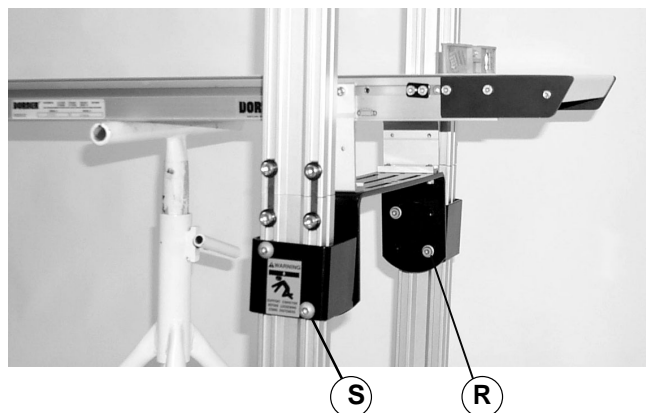

Figure 10
<p>WARNING</p> <p>Failure to secure screws (R and S of Figure 10) may cause conveyor section(s) to drop down causing severe injury.</p> <p>TIGHTEN SCREWS (R and S) AFTER ADJUSTMENT.</p>
15. Tighten four flange socket head screws (R of Figure 10) to 24 ft-lb (33 N-m).
16. Tighten four button head screws (S of Figure 10) to 17 ft-lb (22.5 N-m).